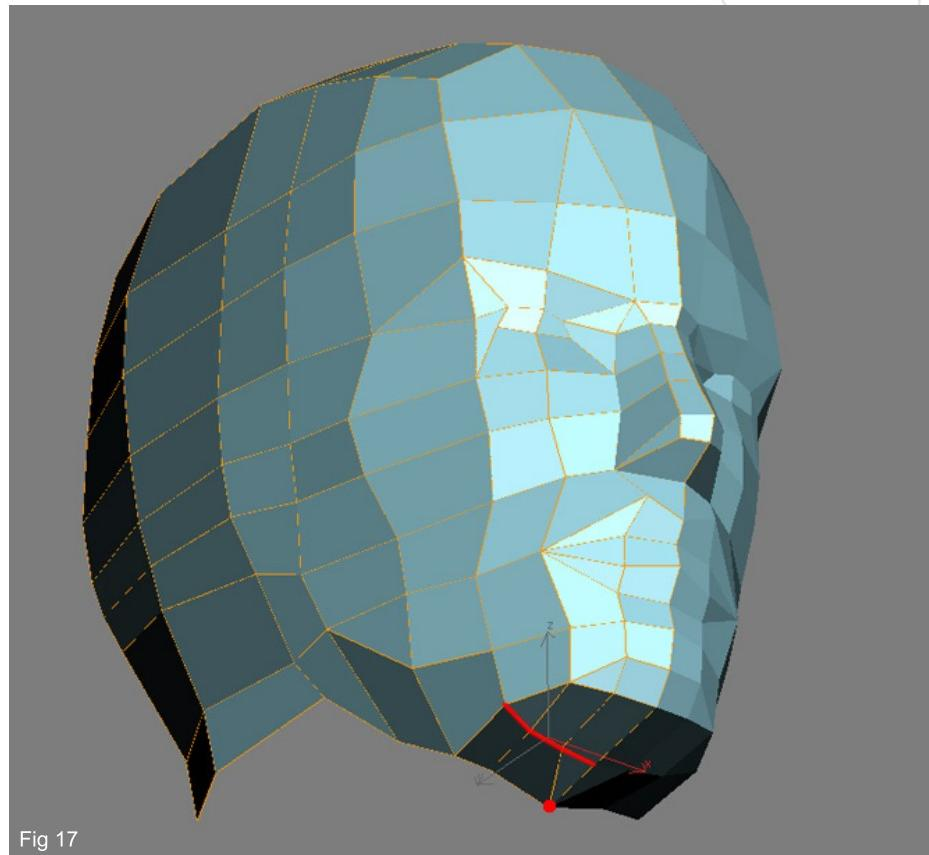

Fig 17
17. To remedy the very flat underside of the chin we shall now make a further cut across from the vert in the middle (shown in red in Fig17). The extra verts can now be pulled downward to form a more rounded profile and the one left of the center can be welded to the central one to reduce the poly count.